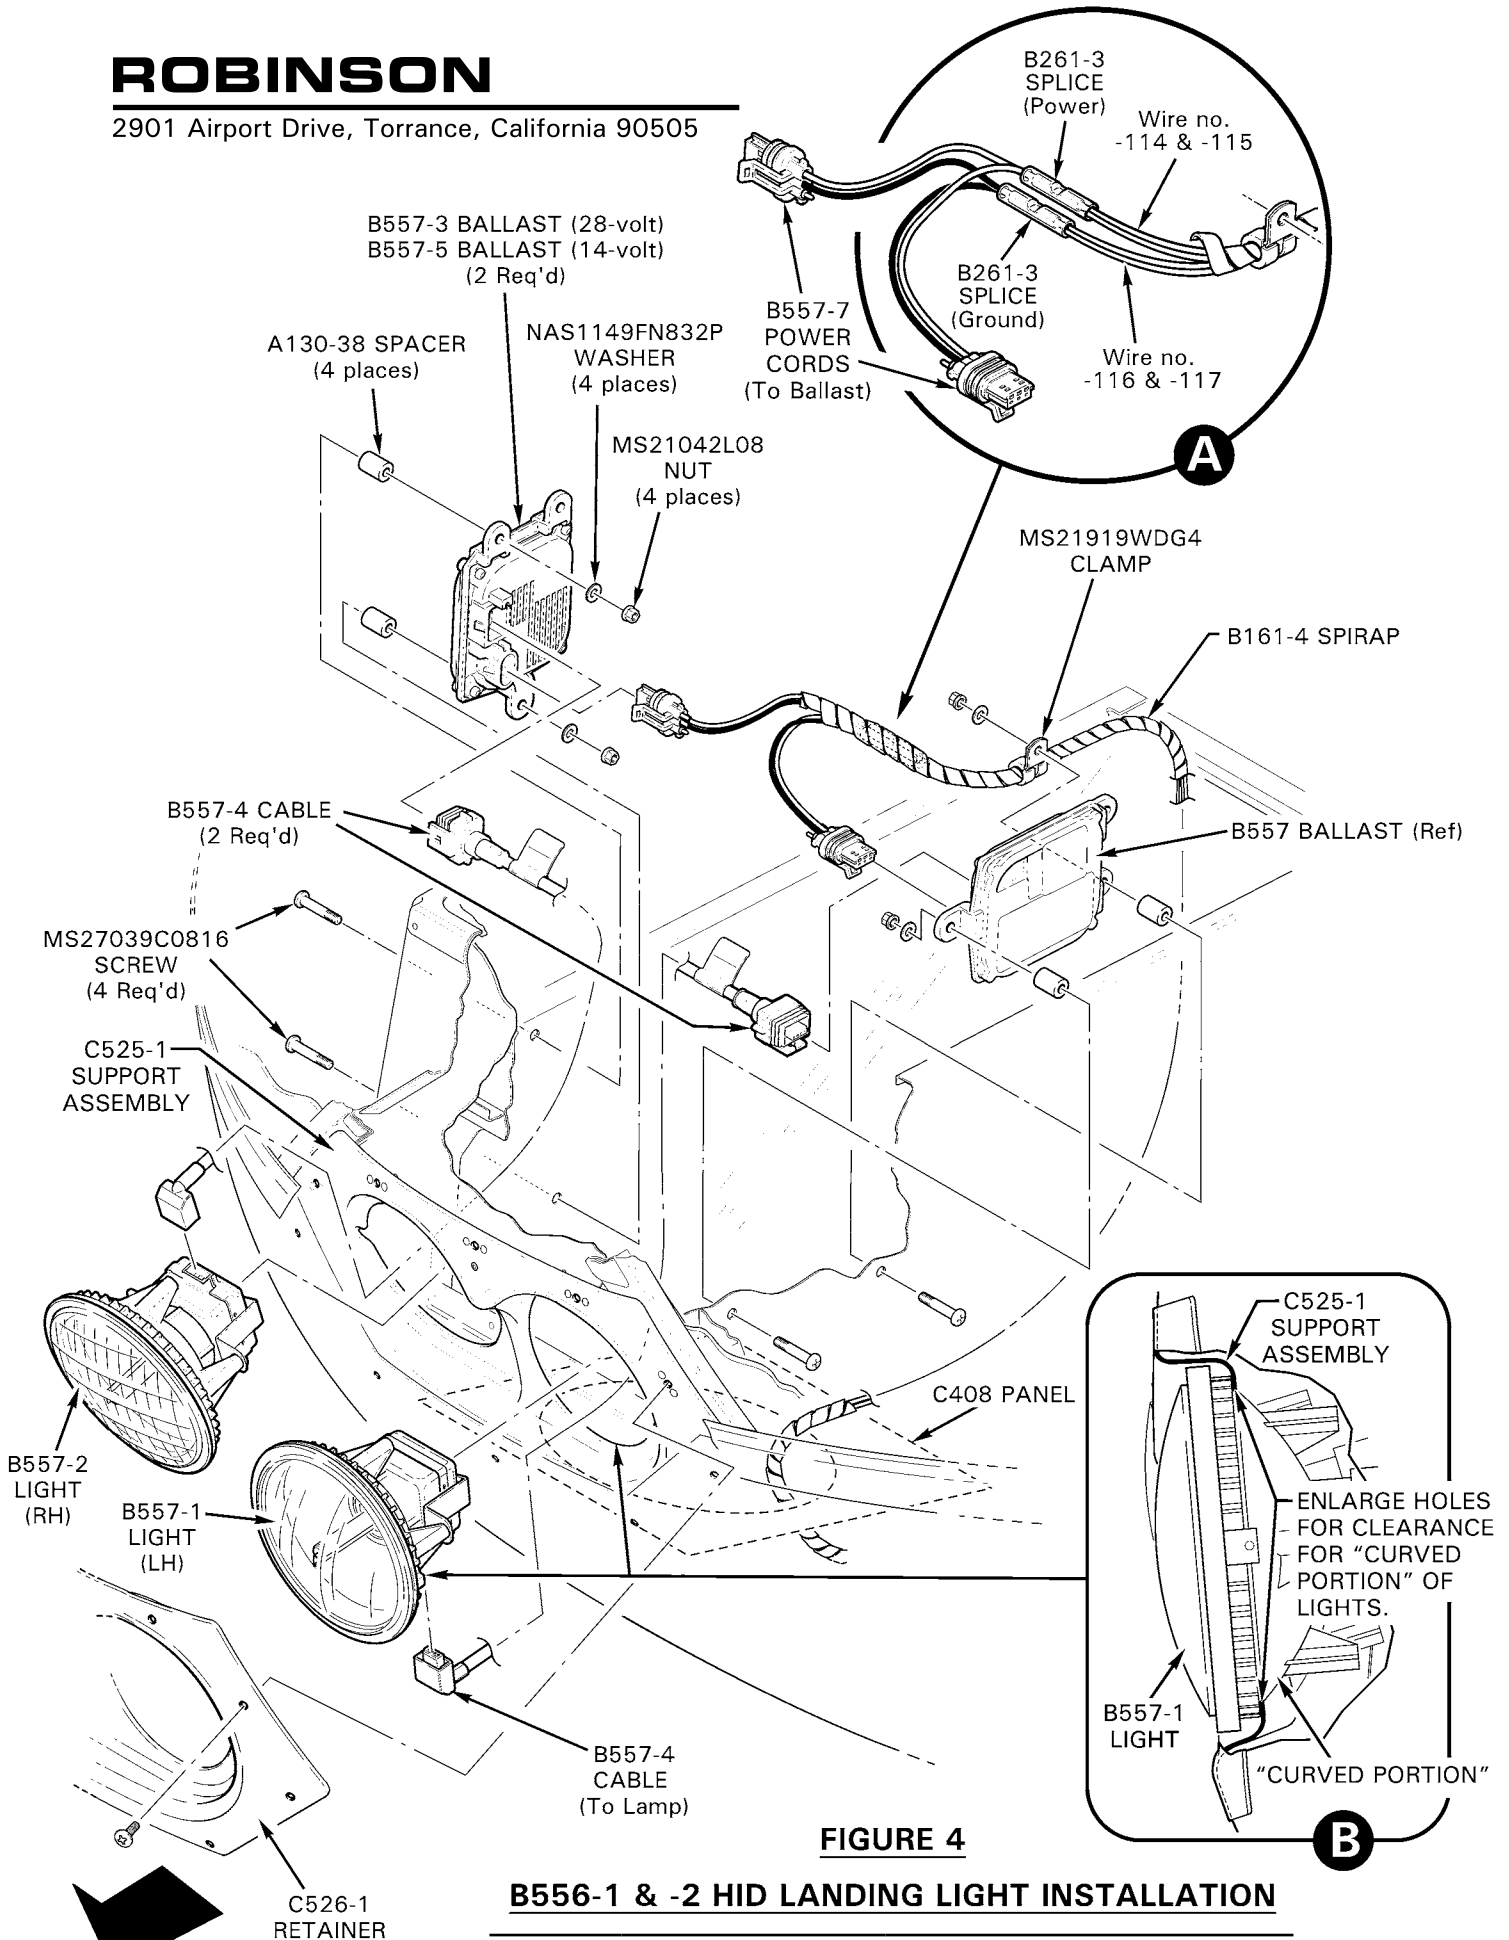

FIGURE 4
3. Refer to Figure 4. Remove C526-1 landing light retainer and landing lights. Discard lamps. Remove and discard MS25171 nipples from wires -114, -115, -116, and -117. Route wire ends down along inside of chin then up thru hole in C408 panel per Figure 4. Temporarily secure wire ends away from work area.
12. Refer to Figure 4, Detail A. On B557-7 power cords, twist both white power-wire conductors together and crimp them to one side of a B261-3 splice. Remove ring terminals from -114 & -115 wires, strip 0.25-inch wire insulation from each, twist conductors together, and crimp both to other side of same B261-3 splice.
17. Refer to Figure 4, Detail B. B557-1 & -2 lights may fit differently inside C525-1 support than filament lamps, causing C526-1 retainer misalignment. As required, enlarge holes in C525-1 support (a small drum sander works well) for clearance for the "curved portion" of B557-1 & -2 lights. Clean up debris.
Lights are different part numbers; position lights per Figure 4.